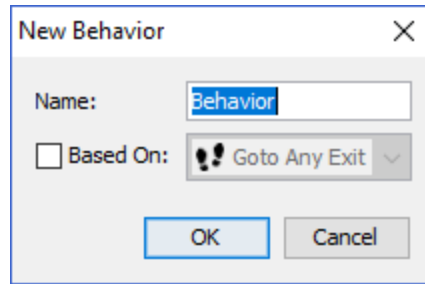

Figure 94. New Behavior dialog
1. Right click the **Behaviors** node from the Navigation View, and from the right-click menu, click **Add a Behavior**, which will open the New Behavior dialog shown in Figure 94.